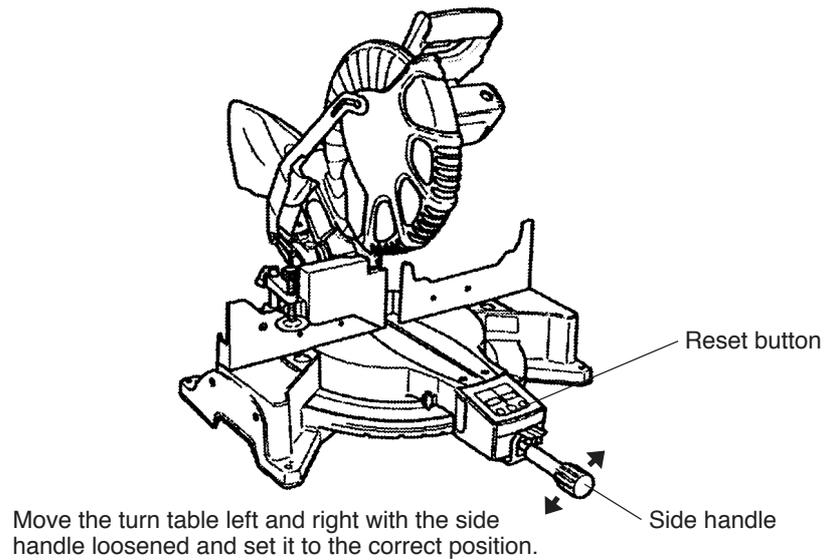

Fig. 26
- (1) Move the turn table left and right with the side handle loosened, and set the turn table to the correct position.
- (2) If the figures on the display and positive stop still do not match, then return the turn table to the 0° position. Next move the turn table left and right with the side handle loosened as shown in Fig. 26. After setting it to the correct position 0° , press the reset button again.